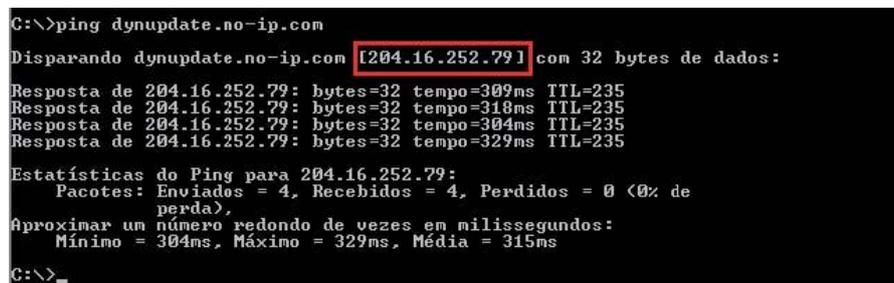

Figure 14-10
- Now you need to define the definition of the server's IP in IP-device able to access this service DDNS. To get DDNS service, you need to have a computer connected to the Internet on the same network with device. Then please type the command `dynupdate. no ping-ip.com` at the command prompt, Windows ®. The server's IP will be displayed on the screen. See Figure 14-10. Your device can use this IP to find the No-IP server.